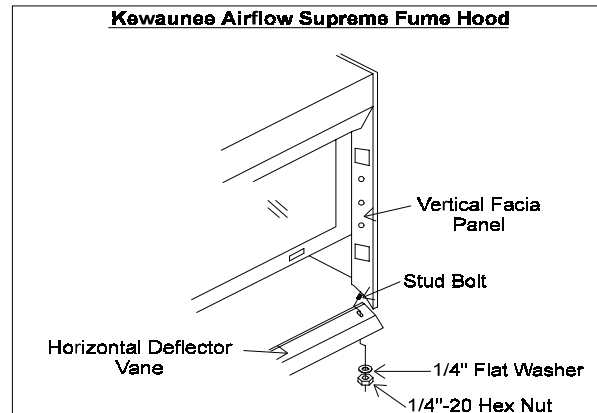

Figure 2
10. Replace the factory deflector vane. If it is held in place by stud bolts use the 1/4" flat washers and 1/4"-20 hex nuts to secure the deflector vane. Otherwise, use the new mounting holes drilled previously. The Airfoil Pitot™ will provide additional support. Refer to Figure 2.